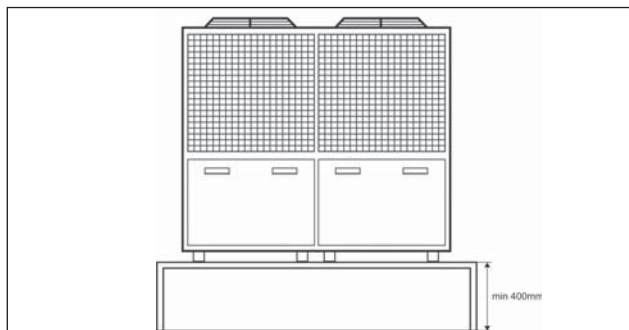

Fig. 8.4
- for models with two fans located on the frame (Fig.8.4) – 200 mm;